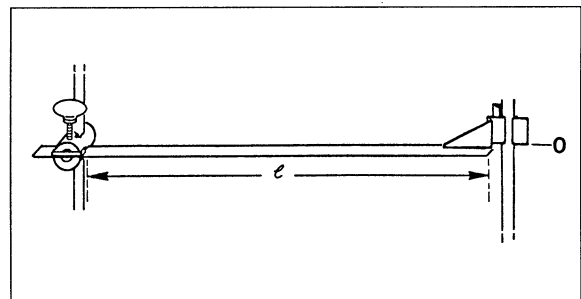

Fig. 2 Setting the pointer to the unloaded leaf spring's starting (zero) position
3. Use the pointer to indicate the zero position of the unloaded leaf spring ► Fig. 2.